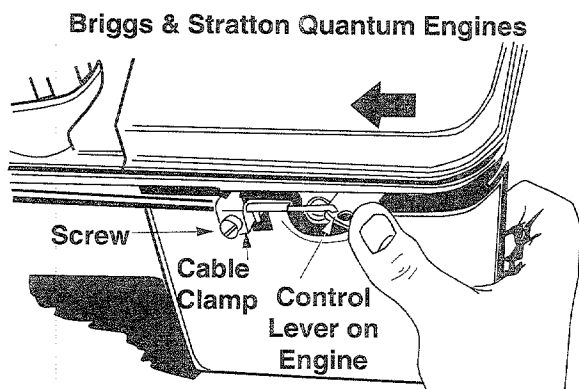

Figure 16
- Remove the screw shown in Figure 16. Remove the cable clamp from the cable.